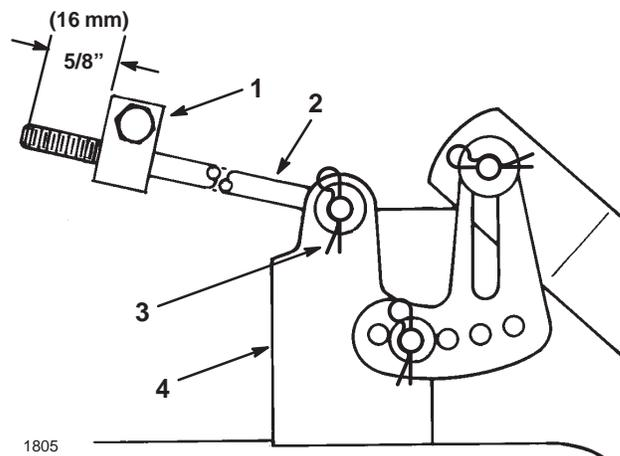

Figure 50
5. Measure the length of the rod extending out the front of the adjusting block on the sides of the chassis (Fig. 50). If the rod length is not $5/8''$ (16 mm), remove the hair pin cotter and washer from the end of the rod (Fig. 50), and turn the rod until the $5/8''$ (16 mm) dimension is obtained. Then install the end of the rod into the hole in the mower mount and secure in place with washer and hair pin cotter. Repeat this procedure on the opposite side of the mower.